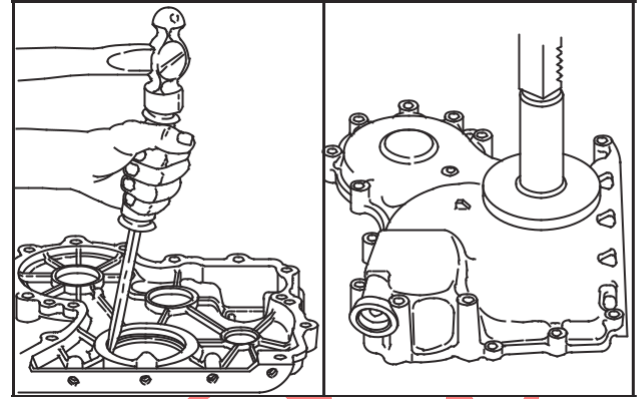

Fig. 13 – Replacing Oil Seal
2. Use seal driver, Tool #19423, to install new oil seal, Fig. 13.